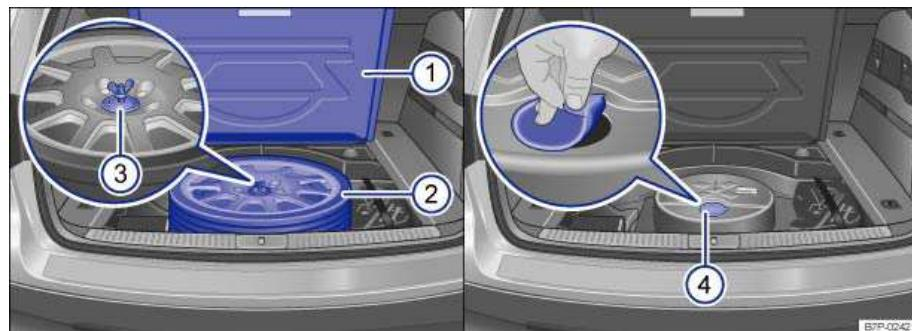
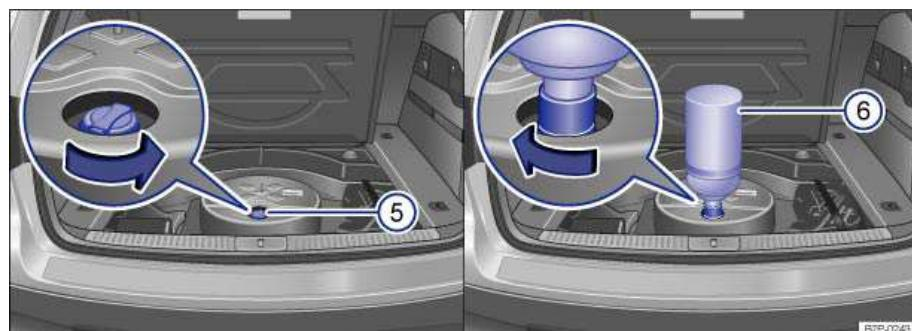

Fig. 308 Luggage compartment with collapsible spare tire and AdBlue tank.
Fig. 309 AdBlue tank with filler neck cap and refill container.
Key to ⇒ fig. 308 and fig. 309:
- Fold up the luggage compartment floor panel ⇒ fig. 308 (1) and hook it open or, if you have a reversible luggage compartment floor panel, take this out
- Take out the collapsible spare tire (2)- Unscrew the fastening screw (3) with washer counterclockwise and take out the collapsible spare tire.
- Pull off the plug (4) in the spare tire well.
- Unscrew the tank filler neck cap ⇒ fig. 309 (5) counterclockwise and remove.
- Screw in the fuel filler neck cap (5) clockwise until the cap locks into place.
- Put the plug ⇒ fig. 308 (4) back in the spare wheel recess and make certain it is properly placed and secure.
- Put the collapsible spare tire (2) back in the spare wheel recess and secure it with the fastening screw (3) and washer.
- Unhook the luggage compartment floor panel (1) and fold down or, if you have a reversible luggage compartment floor panel, put this back in ⇒ *Luggage compartment*.